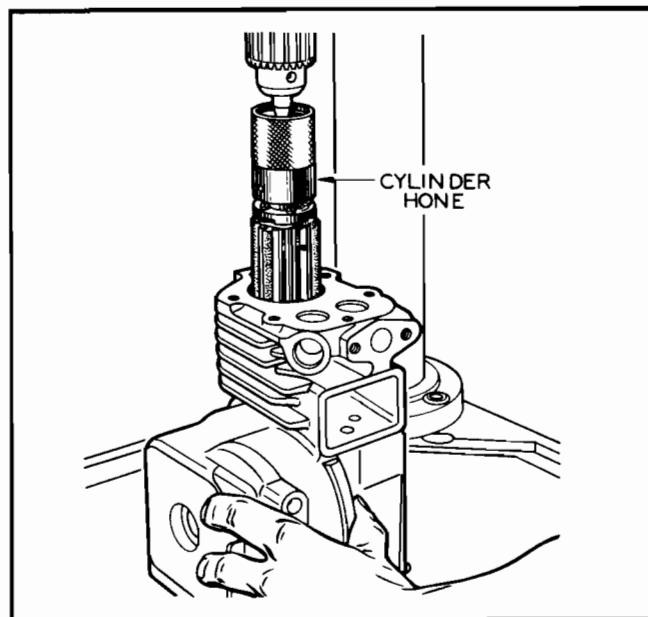

Figure No. 49—Honing the Cylinder
- d. Install a set of coarse stones in the cylinder hone, and insert the hone in the cylinder. (See Figure No. 49.)